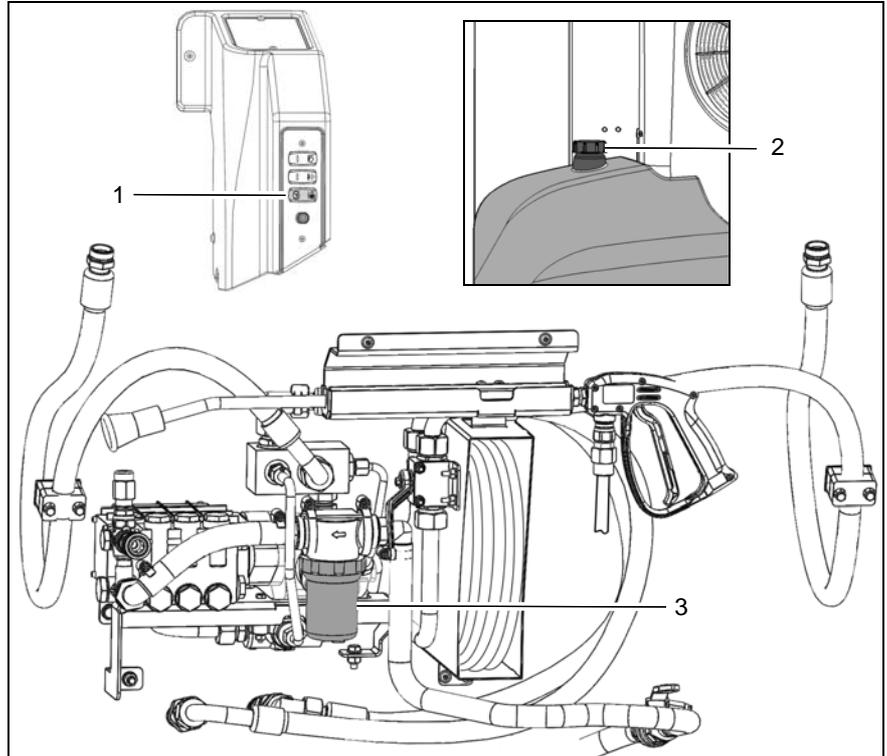

Fig.7
2. Lock the parking brake (Fig. 7/1).
3. Fill the fresh water tank (Fig. 7/2).
4. Check and if necessary clean the water filter (Fig. 7/3) of the high-pressure cleaner.